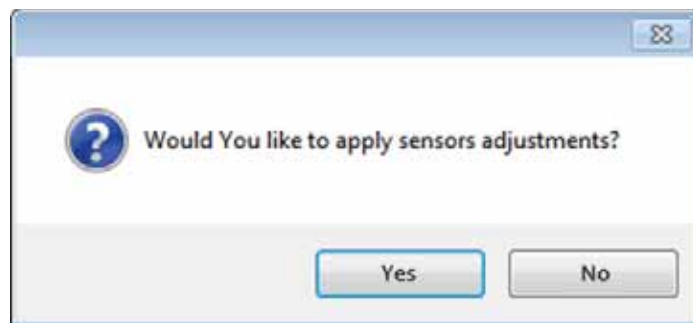

Fig. 1-25. Request on redefinition of the calibration parameters of the displacement sensors
5. Click the **OK** button to save your modifications and close the dialog. This will open a confirmation box with a question on modification of the calibration parameters of the displacement sensors (Fig. 1-25). Select **No** to save calibration parameters of the sensors defined in the current session of the program.